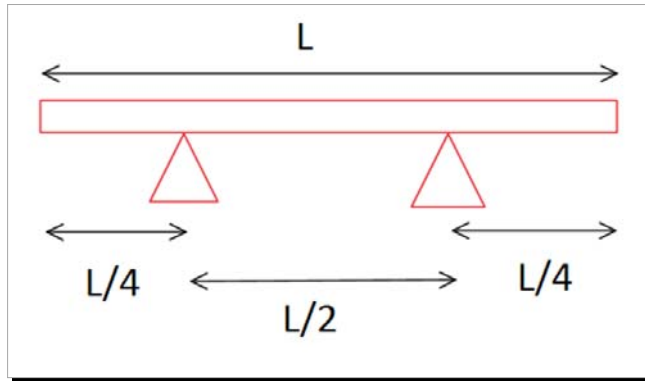

Figure 1
Place the rail you wish to test on (2) saw horses. The saw horses should be placed in the following manner, see Figure 1.